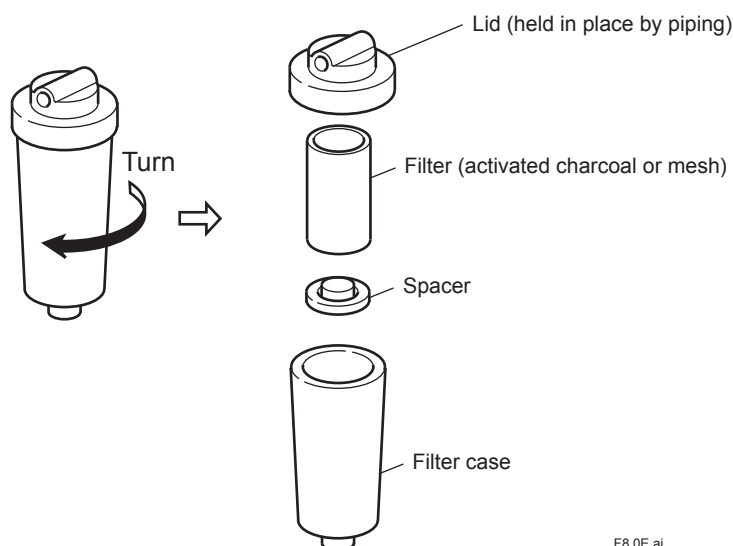

Fig 8.1 Replacing Activated Charcoal Filter
- (1) Close BV1 and BV2, then rotate filter case to remove (see Figure 8.1).
- (2) Clean inside of case with brush or the like.
- (3) As illustrated in Figure, replace filter with new one.
- (4) Reassemble using the reverse procedure, then open BV3 and BV1 to pass water through filter. Check that there are no water leaks from filter and piping, and no bubbles in drain water.
- (5) Operate for about 20 min. then confirm that free available chlorine analyzer reading is near zero.
- (6) Close BV3 and open BV2 ball valve.